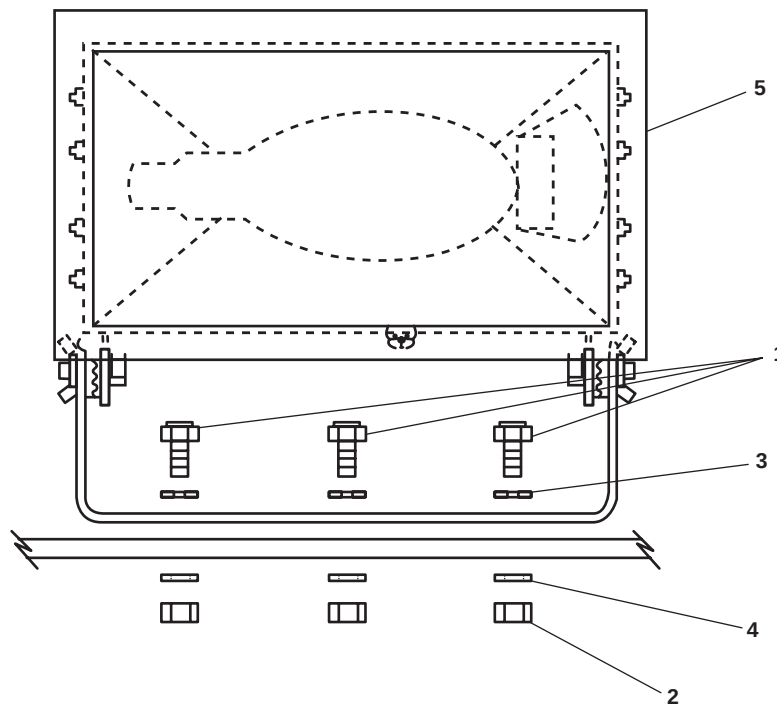

Figure 1. Replace Metal Halide Floodlight
4. Remove the mounting bolts (figure 1, item 1), nuts (figure 1, item 2), flat washers (figure 1, item 3), and lockwashers (figure 1, item 4). Discard the lockwashers.
5. Remove the floodlight (figure 1, item 5) from the foundation.
1. Position the floodlight (figure 1, item 5) on the foundation.
2. Secure the floodlight (figure 1, item 5) to the foundation with the mounting bolts (figure 1, item 1), nuts (figure 1, item 2), washers (figure 1, item 3), and new lockwashers (figure 1, item 4).